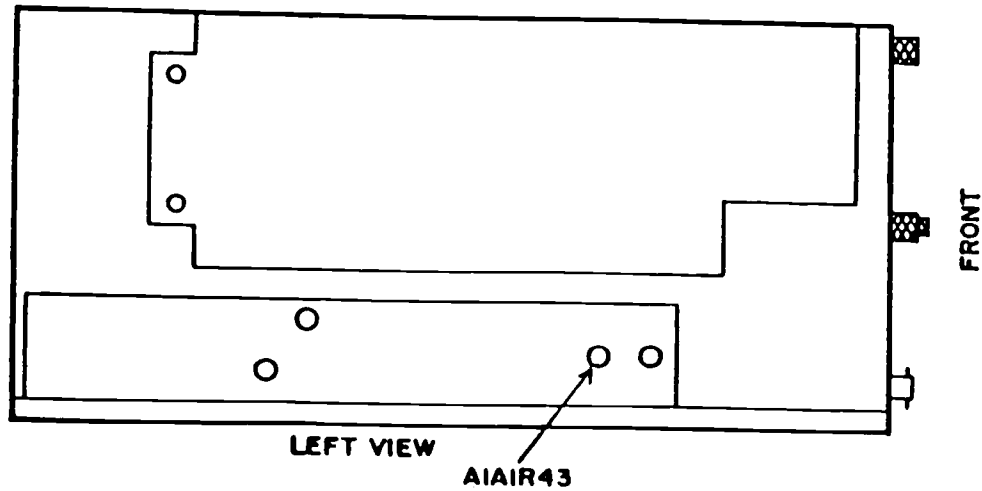

Figure 3. Test instrument - left view.
(29) Set **HI LVL - μ VX100-NORM** switch to **NORM** and **BFO-RF LEVEL** control to **-80 dBm**. Measuring receiver will indicate between -74 and -86 dB.
b. Adjustments. Adjust A1A1R43 (fig. 3) until measuring receiver indicates -60 dB (R).
- (1) Adjust A1A1R43 (fig. 3) until spectrum analyzer indicates signal at the reference established in **a** (5) above (R).
- (2) This adjustment may have to be set for best in-tolerance compromise between 100 and 999 MHz.